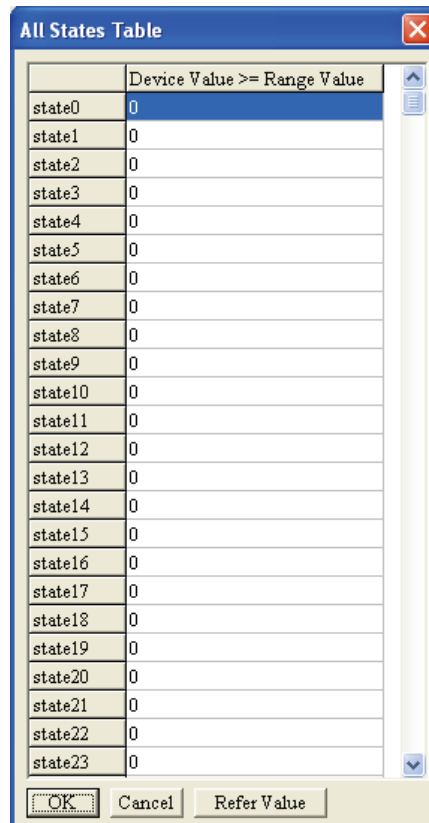

Figure 1-77
Step 5. When the users double click the field of “Device Value \geq Range Value” by using the mouse, the following All States Table tab shown in Figure 1-77 will open for the users to set the setting range values of all states.